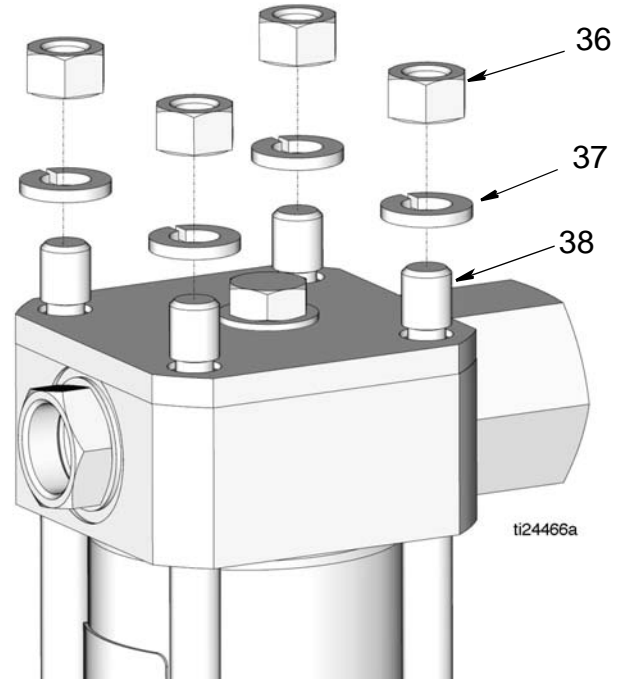

FIG. 16
5. Install lock washers (37) and nuts (36) onto tie rods (38). Torque nuts to 28-32 ft-lbs (38-43 N.m) (FIG. 16).